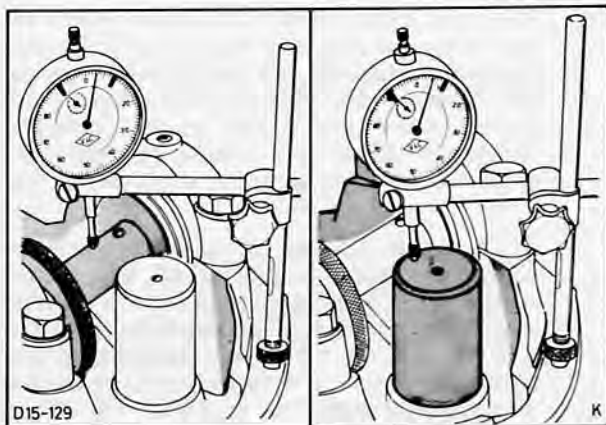

Fig. 112. Adjust gauge bar and master pinion
19. Adjust gauge bar. To do this, secure dial indicator with holding fixture on rear axle casing and position plunger on centre of bar, Fig. 112.
20. Adjust master pinion. To do this, set up dial indicator on outer edge of end of master pinion close to the gauge bar, Fig. 112. Rotate master pinion another complete turn and observe total deflection of dial indicator needle. Then continue turning master pinion until dial indicator reading is half the total deflection measured.